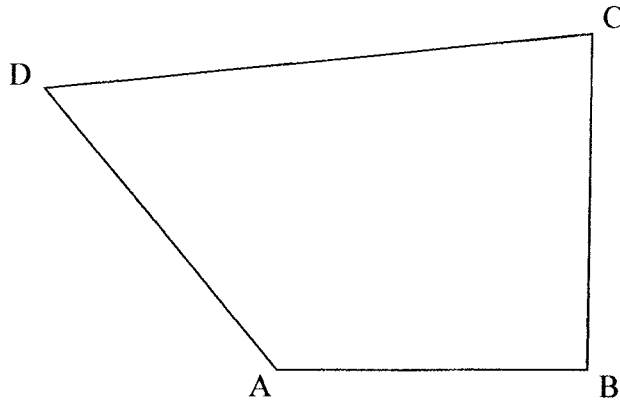

Figure 3
6. Enlarge **Figure 3** (ABCD) in the ratio of 5:7 (4 marks)